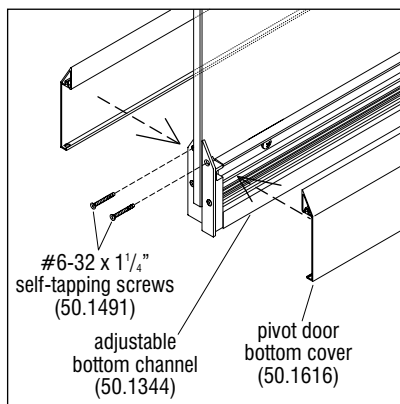

Figure 10 - Install Bottom Covers
13. Repeat steps 7 through 12 at the other end of the door leaf to reverse the block end cover, the glass pivot door end cover and end cover assembly. Then, install the bottom covers (50.1616) onto the bottom channel by snapping them into place and installing the two upper #6-32 x 1/4" self-tapping screws on each side of the door (Figure 10).